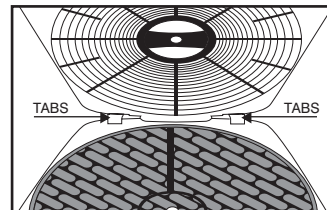

Fig. 5
4. Place the tabs at the bottom of the grill plate into the base of the unit. See Fig. 5